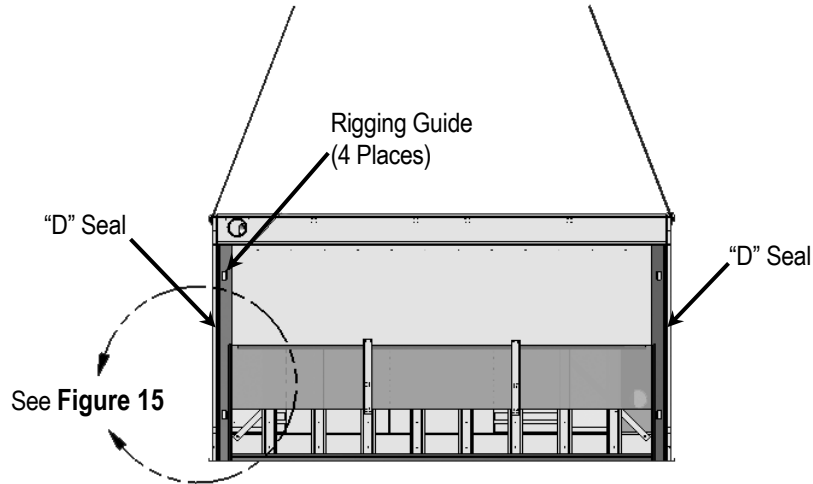
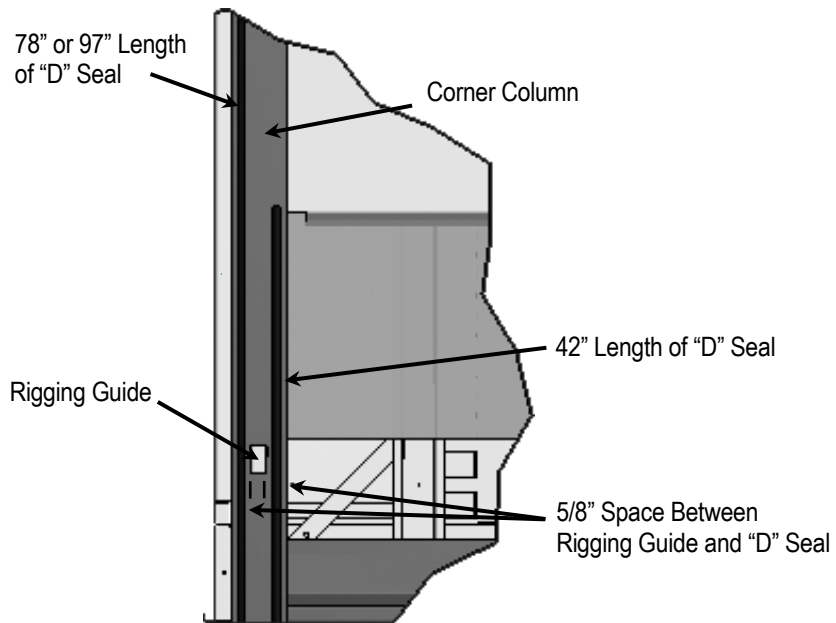

Figure 14. Coil Module as Seen from the Plenum Side
Figure 15. Detail of Corner Column
10. Before rigging the coil modules, wipe any moisture and debris from the corner columns and apply "D" seals (BAC part # 271665) at two locations on each coil module as shown in **Figure 14** and **Figure 15**.